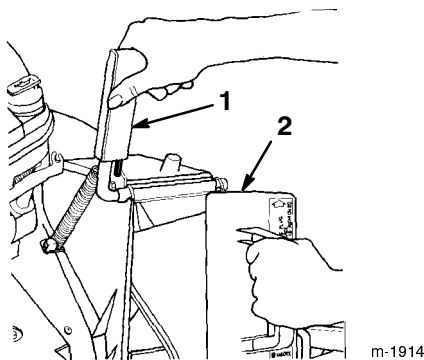

Figure 6
1. Open the discharge door by pulling forward on the handle and moving it rearward (Fig. 6). Hold the discharge door handle to prevent the spring-loaded door from closing while you insert the plug.
2. Since the plug is slightly wider than the discharge tunnel opening, rotate the plug clockwise slightly while inserting it (Fig. 6).